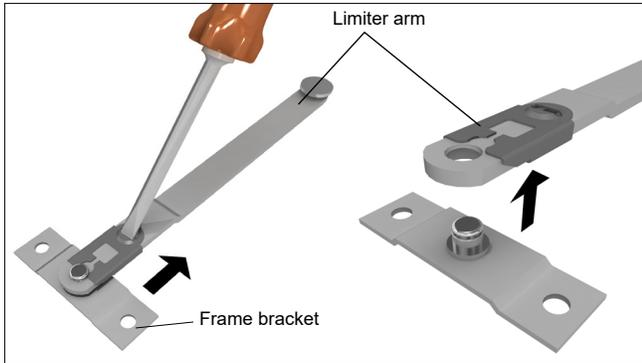

Figure 7 Disconnect and remove frame bracket.
- Using a screwdriver, disconnect and remove the frame bracket from the limiter arm. See figure 7.